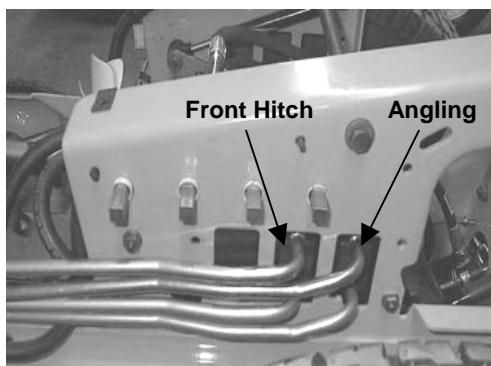

FIGURE 7
- H) Install the valve assembly into the frame and loosely fasten with the previous removed hardware. Follow the installation instructions in the Owner's Manual that came with the Front Hitch System Attachment and Hydraulic Angling Attachment for installing the hydraulic lines/tubes and securing the valve assembly to the frame. See Figure 7 and 8.
- I) If not already installed, install previously removed O-Rings on the ends of the new hydraulic tube (F) (Aux. from Steering). Reassemble in reverse order using instructions in steps B and A. NOTE: When installing the steering pump port plate, place a small amount of grease on the O-Rings and cover the connector surface completely for reinstallation.